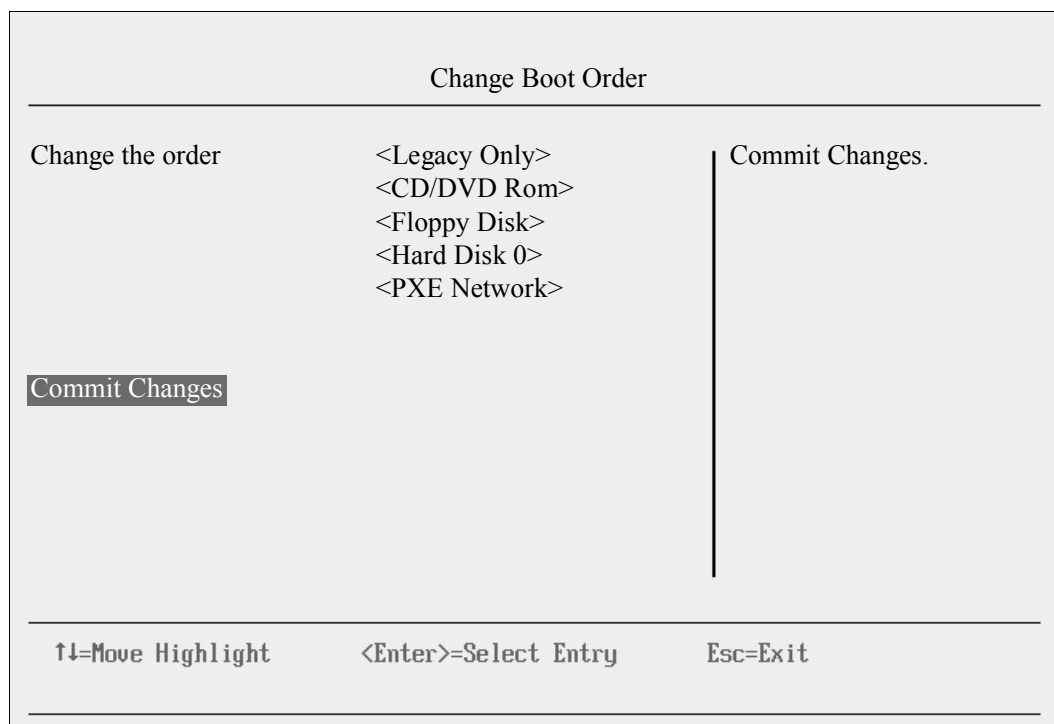

Figure 9-175 Moving Legacy Only to the top of the order
6. In the Change Boot Order panel (Figure 9-175), follow these steps: